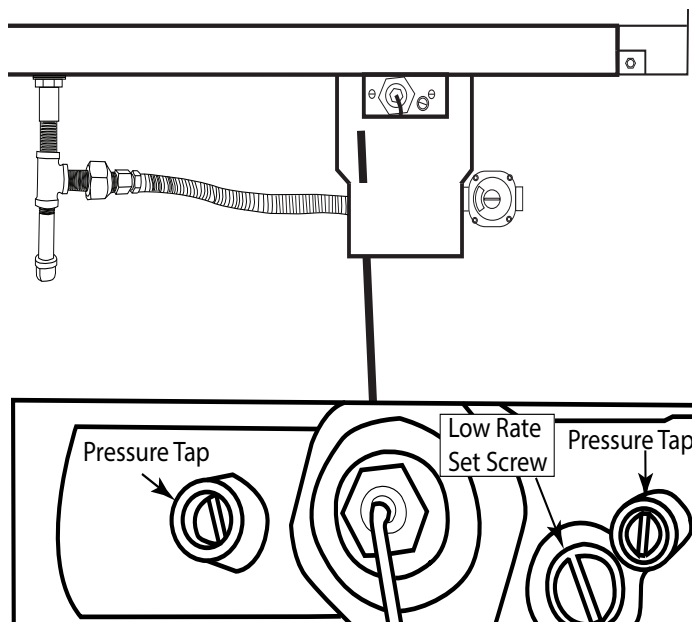

Fig. 10 Detailed location of low rate set screw
Step 10: Look for the low rate set screw in the gas valve box. There is a cutout (window) area that allows access to the low rate set screw. Fig. 10 below shows the side view of the burner pan and a close-up detail.